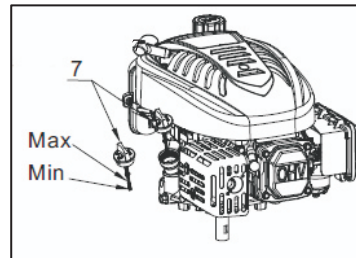

Fig. 7
5. Reinstall the oil filler cap/dipstick (7). (See Fig. 7)